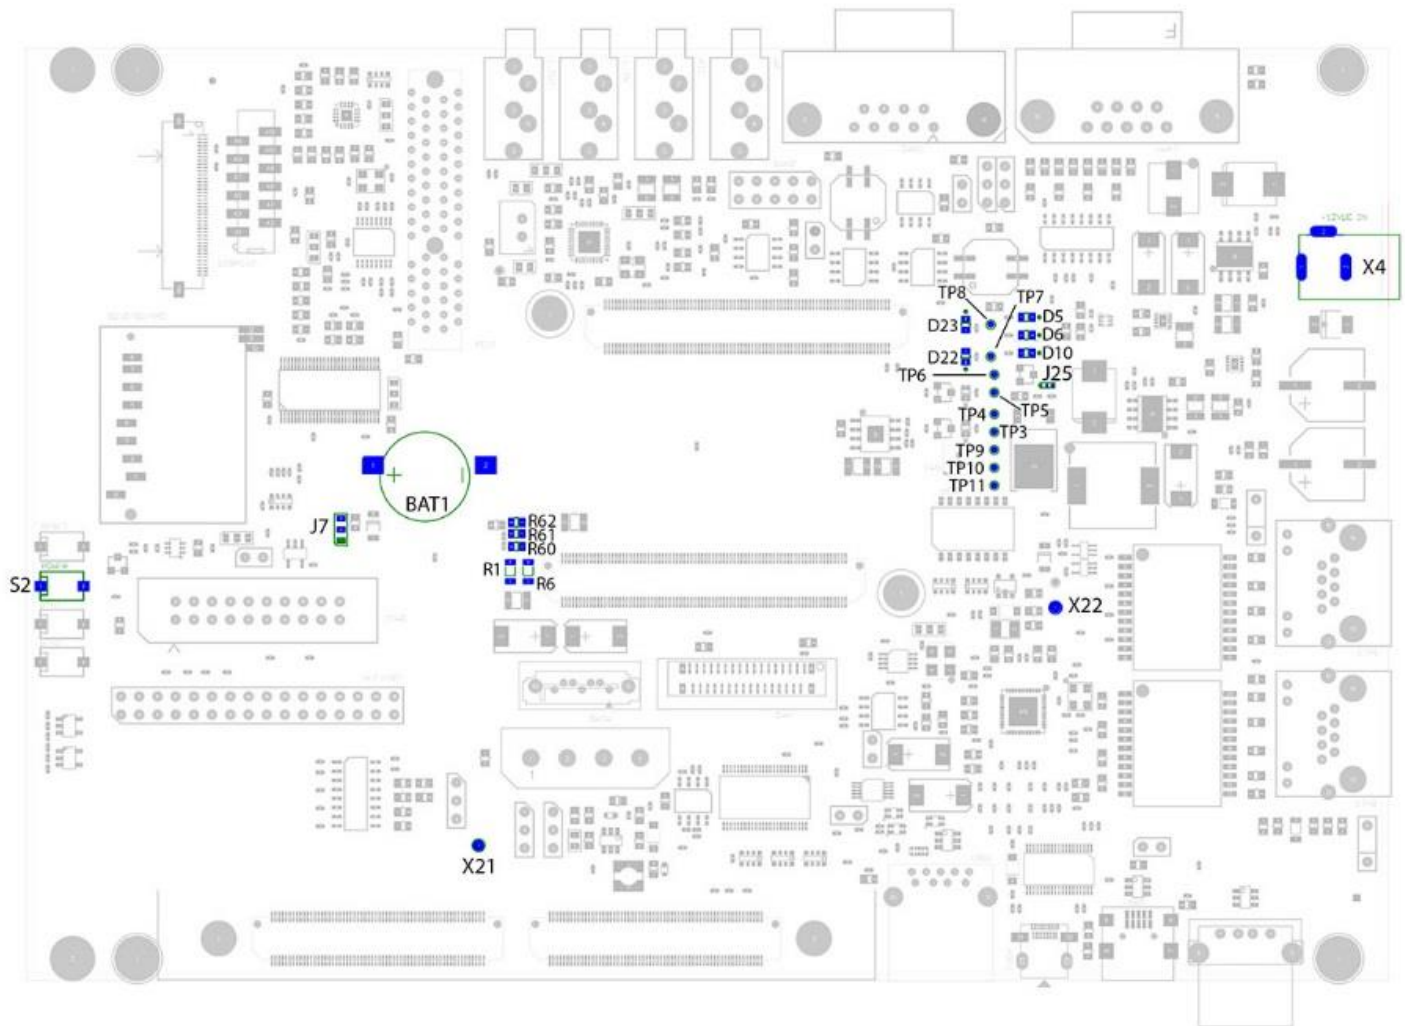

Figure 12. Power Scheme
The power supply rails can be measured through a number of test pads (TP) present on the Carrier Board as shown in Figure 12. These test pads are described in detail in Table 21.
The Carrier Board provides 5 status LEDs for the main power supply rails: D5, D6, D10, D22, and D23. The location of these LEDs on the carrier board is shown in Figure 12. The LEDs will turn on when their respective power supply rails are powered on. The power supplies these LEDs represent are shown in Table 22.